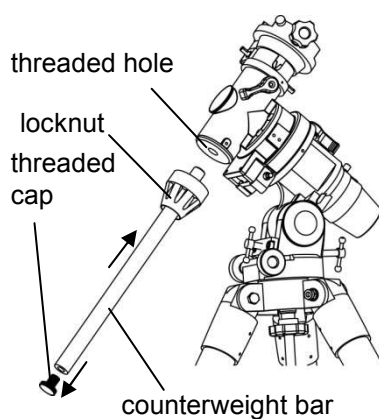

Fig 4
- 1.4.2 Screw the counterweight bar into the threaded hole on the end of the declination shaft. Tighten the locknut on the counterweight bar until it is locked against the mount (fig 4).
- 1.4.3 Unscrew the threaded cap from the end of the counterweight bar (fig 4).